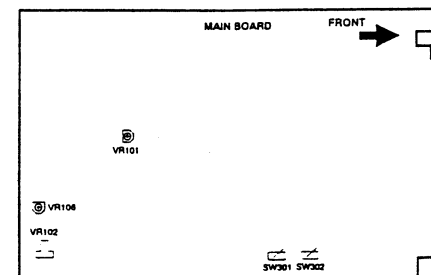

Figure 4-1 Location of on Main board
1. Input a cross hatch pattern in 93.75kHz (1600X1200) mode and adjust VR101 on the main board (see figure 4-1 for approximate location) so the high voltage is in the range 28kV-30kV the set will shut down.
Input a raster pattern (video OFF) in primary mode and push the external brightness control button to maximum. Adjust VR102 (see Figure 4-1 for approximate location) so that the voltage of G1 read on a digital multimeter is -30V \pm 1.
3. Before carrying out white balance adjustment, make sure that the VR106 (see Figure 4-1 for approximate location) position shall be turn counterclockwise to the end (ABL no action).